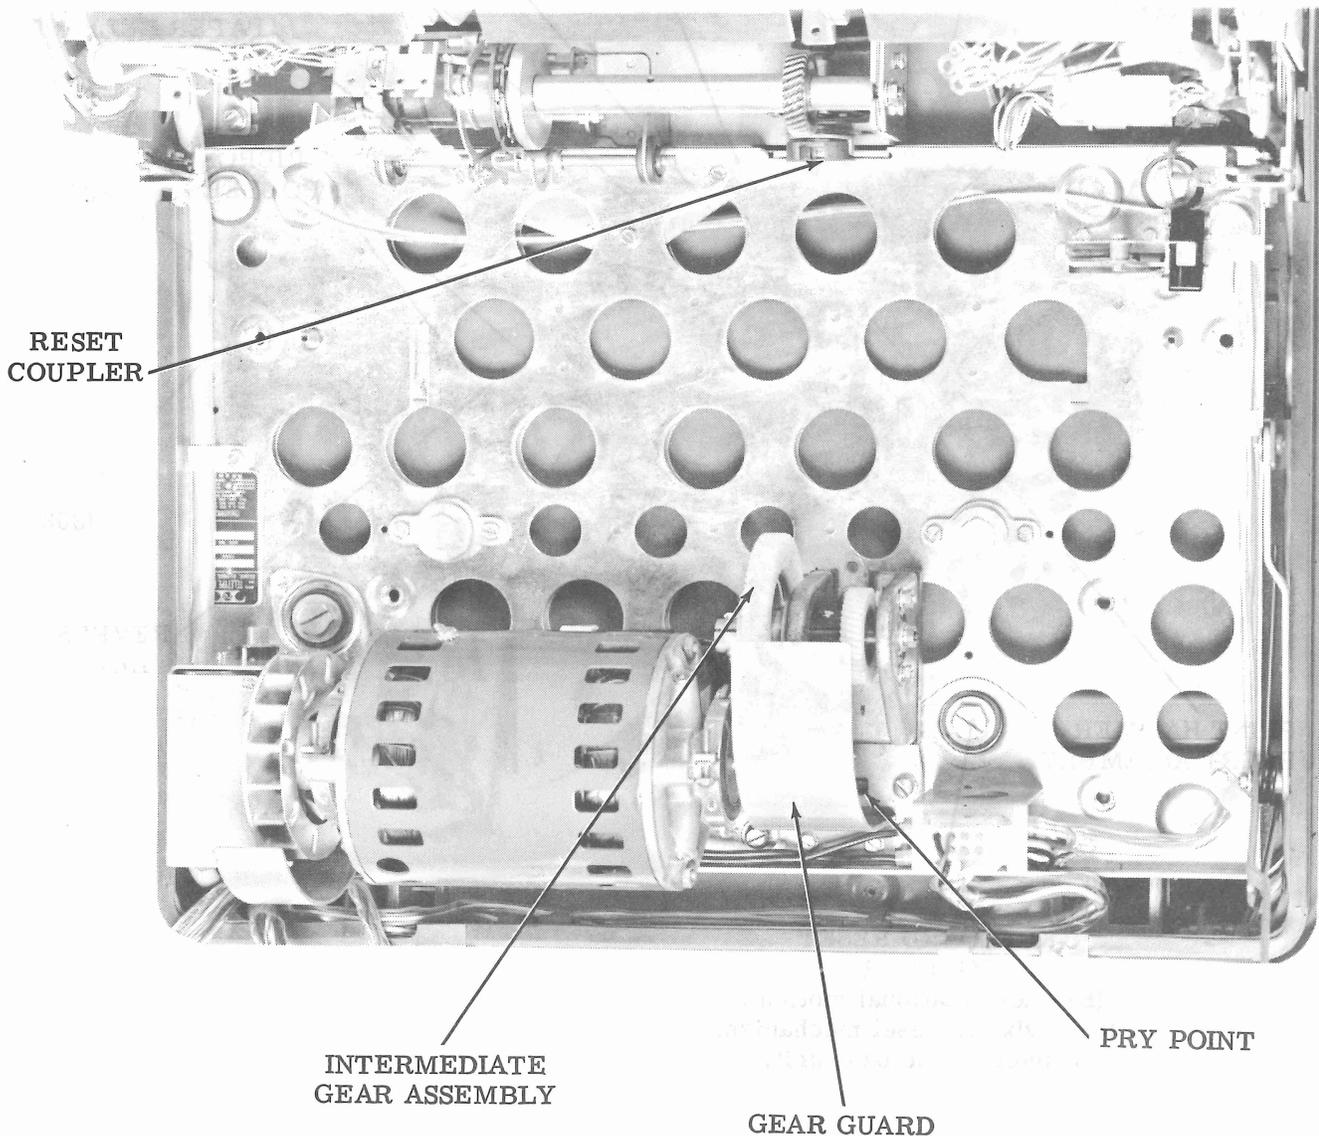

Figure 6 - Base and Motor for KSR Set
4.03 The typing unit may be gripped for lifting by grasping the right corner of the front plate and the rear curve under the left side plate. **DO NOT LIFT ANY OTHER WAY.** From a level position, tilt the typing unit slightly forward (toward the keyboard). Mate the reset coupler of the keyboard reset mechanism (Figure 6) to the typing unit, and carefully lower the typing unit over the locating studs and intermediate gear assembly. Turn the motor fan by hand to be sure that the main shaft driven gear and intermediate gear mesh properly.
4.06 The motor, intermediate gear assembly (Figure 6), and the printer main shaft driven gear should rotate freely without friction between the gears.
4.07 Intermediate Gear Assembly: Remove the gear guard and check for a backlash of 0.004 inch between the main shaft driven gear and the intermediate drive gear. This backlash has a tolerance from 0.004 inch minimum to 0.008 inch maximum. The gears should move freely and mesh properly. If adjustment is necessary, loosen the three intermediate gear assembly mounting screws and the five motor mounting screws friction tight. Move the motor to the rear. Using the pry points at the rear of the intermediate gear assembly (Figure 6), adjust the assembly from front to rear until the requirement is met. Tighten the three intermediate gear assembly mounting screws. Proceed with 4.08 to provide backlash between motor pinion and intermediate gear assembly.